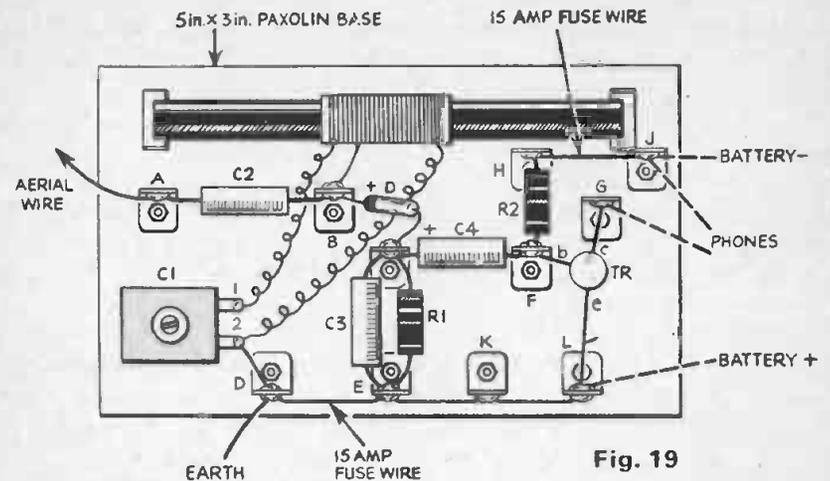
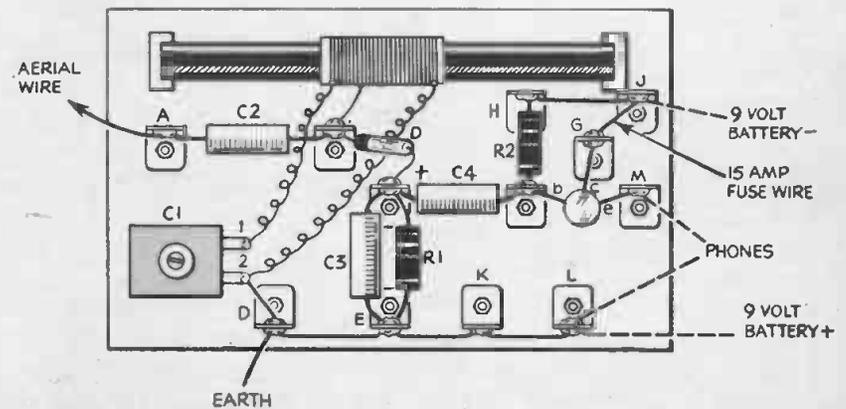
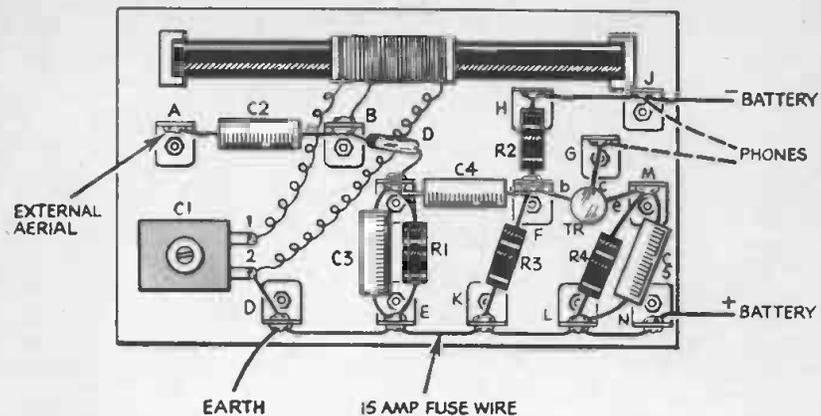

Fig. 19
Fig. 21
Fig. 23
Fig. 19 shows the same circuit drawn as a wiring diagram, with the position of all the components and their connections. The Paxolin panel is the same size as before, but is drilled and fitted with seven additional solder tags—E, F, G, H, J, K and L, positioned as shown.
The wiring diagram for this circuit (*fig. 21*) is the same as *fig. 19*, except that one additional solder tag is required—M.
The component layout and a wiring diagram (*fig. 23*) has the same placing of solder tags as *fig. 21* except for the addition of one more tag (N). You should have no difficulty in completing this circuit and getting it to work properly.